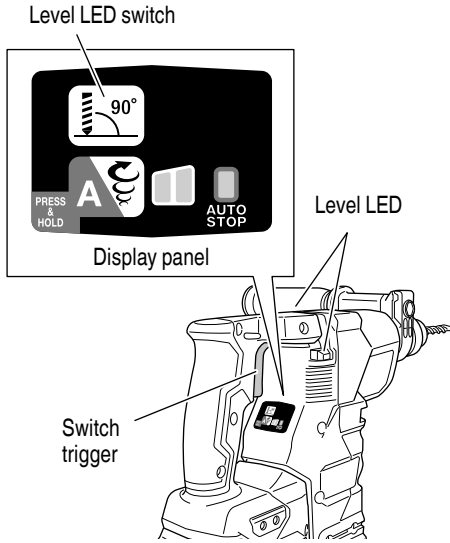

Fig. 31
1. To turn on the LED level function during use, pull the switch trigger gently. Press the level LED switch when the display lamp on the panel lights up. (Fig. 31)